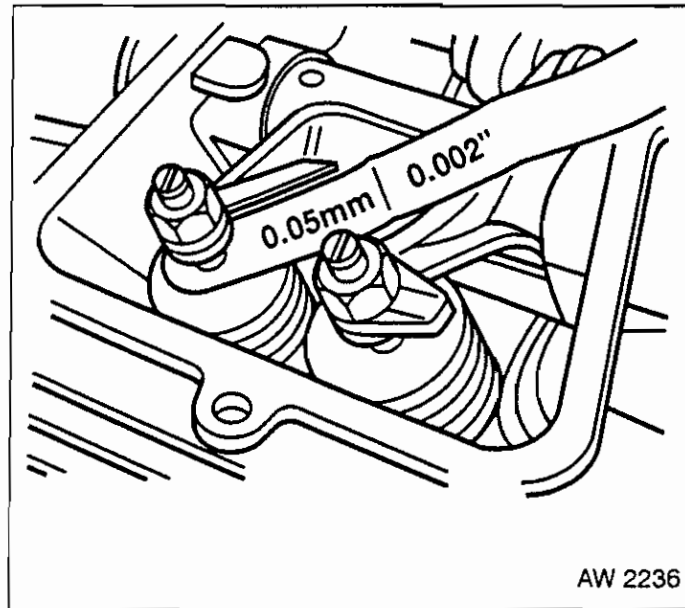

Fig 2.24 Valve Clearance
j. With engine in set position, adjust all (4) valve clearances to .05mm (.002”) cold. Fig 2.24 refers. Replace valve access plates (crankcase breather to rear position) ensuring cover seals are in good order. Replace timing belt outer cover.